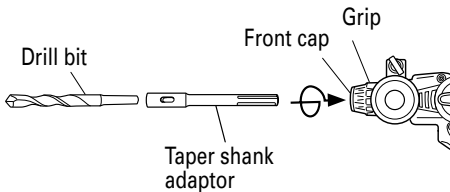

Fig. 24
- (1) Mount the taper shank adaptor to the rotary hammer. (Fig. 24)
- (2) Mount the drill bit (taper shank) to the taper shank adaptor. (Fig. 24)